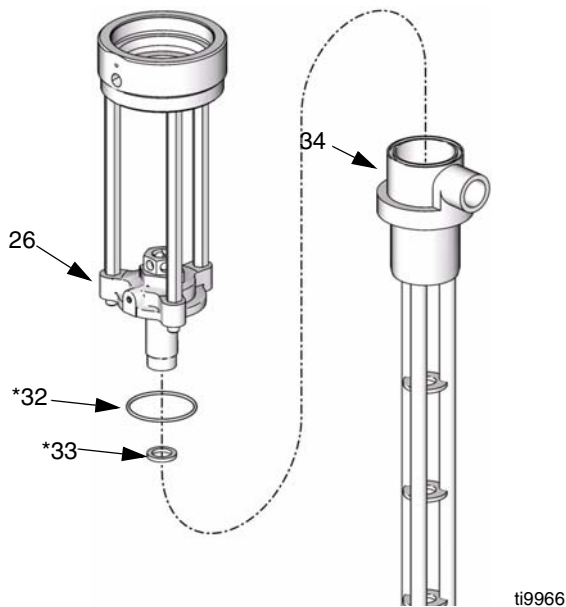

FIG. 22
- Remove mounting flange (26) from pump body (34). Remove o-ring (32\*) and PTFE gasket (33\*) from pump body (34). Inspect all parts for damage. See FIG. 22.